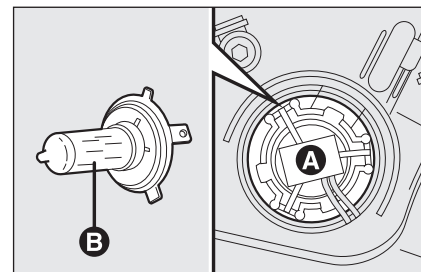

fig. 17
- ☐ press on the central electrical connector **A-fig. 17** and withdraw the unit;